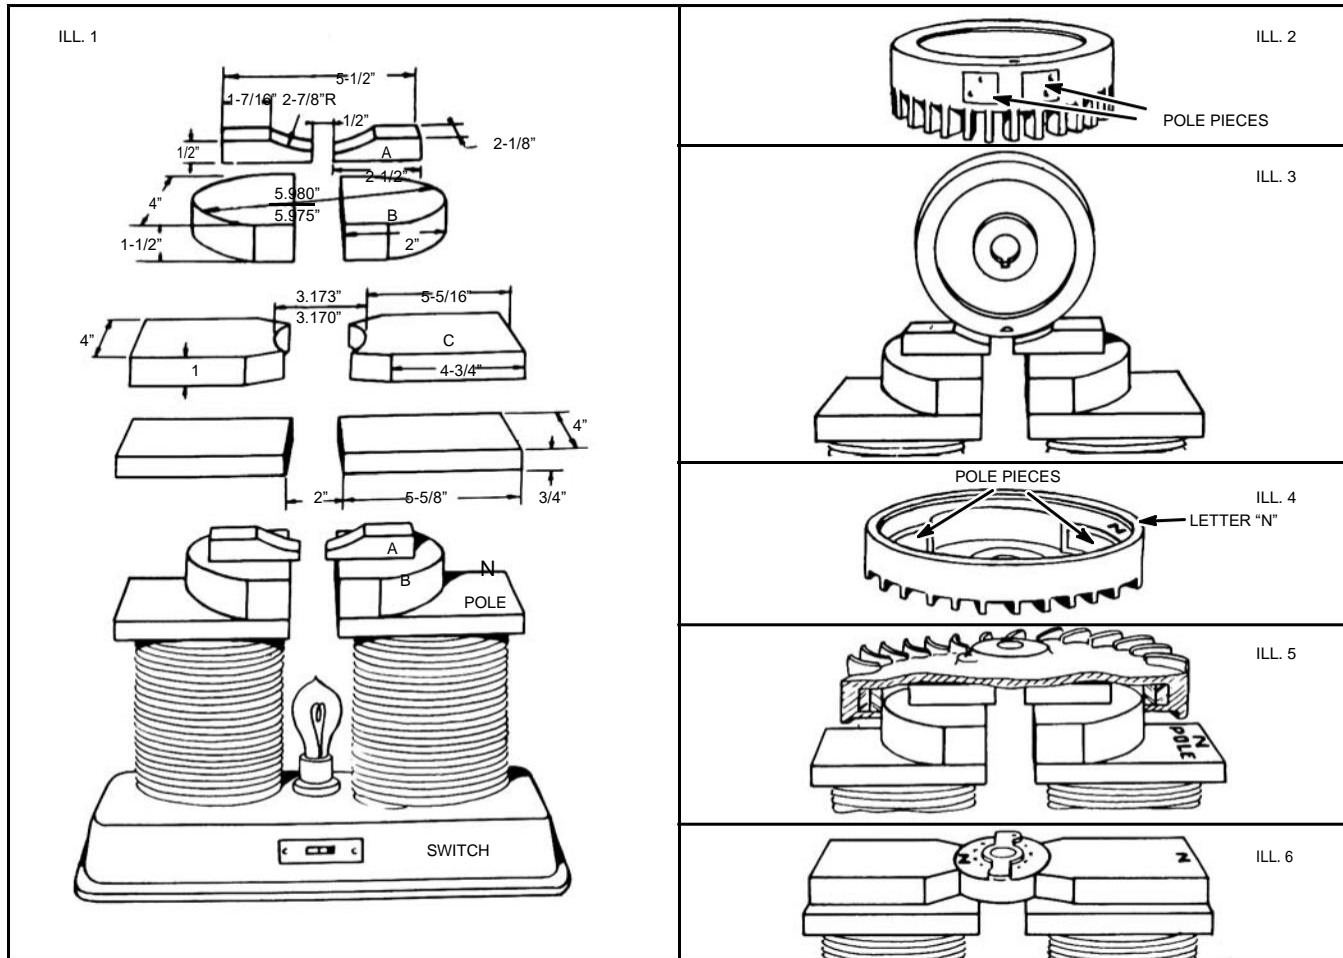

Fig. 76- MAGNETIZING FLYWHEELS & ROTORS
Three (3) sets of pole pieces and two (2) plates on which to mount them should be made to the dimensions shown in Ill. 1, Fig. 76. The steel used for the pole pieces should be made of a soft steel such as AISI 1019. Dowels or screws can be used to hold pole pieces in place. A compass should be used to locate the poles on the charger.
Use pole pieces "A." Hold flywheel with pole pieces toward you and fins downward (Ill. 2, Fig. 76). The pole piece to the right should go on the pole of the charger that attracts the **NORTH** seeking end of the compass needle (Ill. 3, Fig. 76). Apply current twice for 3 seconds each with 1 second intervals.
Use pole pieces "B." The pole of flywheel marked "N" should be placed on the pole of the charger which attracts the **NORTH** seeking end of the compass needle (Ill. 4, Fig. 76). Apply current twice for 3 seconds each with 1 second intervals (Ill. 5, Fig. 76).
Use pole pieces "C." The pole of the rotor marked "N" should be placed on the pole of the charger which attracts the **SOUTH** seeking end of the compass needle (Ill. 6, Fig. 76). Apply current twice for 3 seconds each with 1 second intervals.